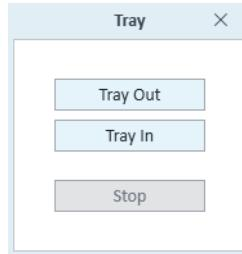

Figure 8. Tray widget dialog box
- 1 Click the Tray widget to display the Tray widget dialog box (See Figure 8).